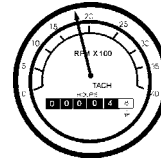

**Figure 46. Oil Pressure Gauge**
9. The engine oil pressure gauge (Figure 46) will indicate the oil pressure of the engine. Under normal operating conditions the oil pressure is approximately 28 to 85 psi. (193~586 kPa).